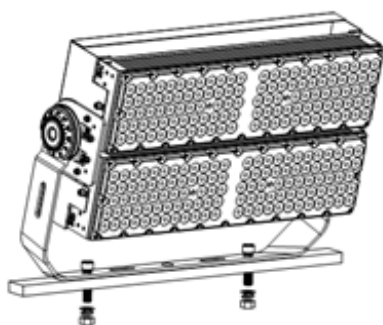

Figure 2. Install the screws, nuts, flat washers and spring washers
- Insert the connected wires into the lamp pole, then align the LED high mast lamp with the hole and put it on the lamp pole, put on 2 M16*60mm screws, flat washers, spring washers and nuts, tighten the screws with an Allen wrench and an open-end wrench, and finally wrap the safety ropes several times and buckle them, as shown in Figures 2, 3, and 4.